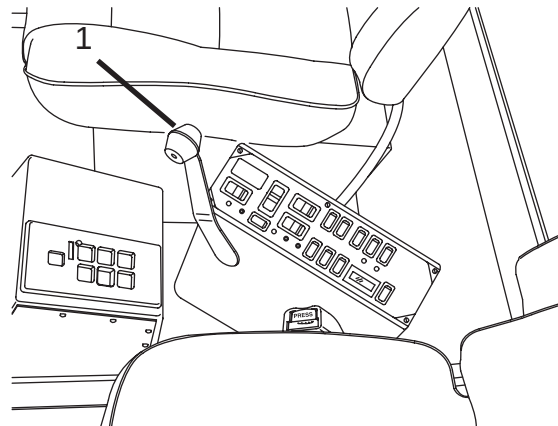

Figure 6
- Move the drum control lever (Figure 6, Item 1) until the drum rotation stops (control lever is in the NEUTRAL position).